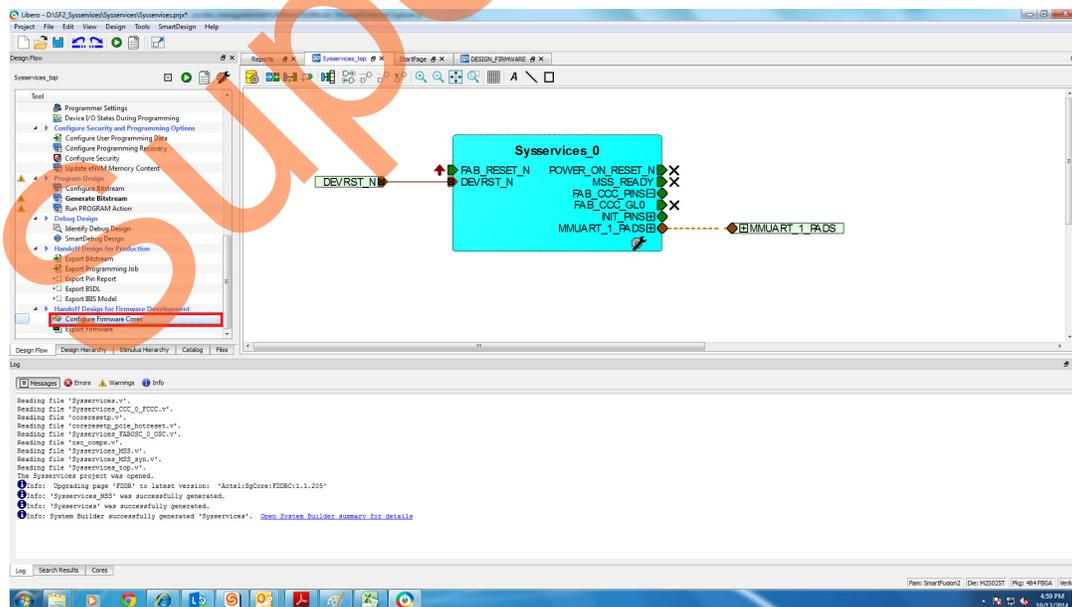

Figure 11 • Opening DESIGN\_FIRMWARE Window
1. Click **Design > Configure Firmware** in Libero SoC to open the **DESIGN\_FIRMWARE** window, as shown in Figure 11.